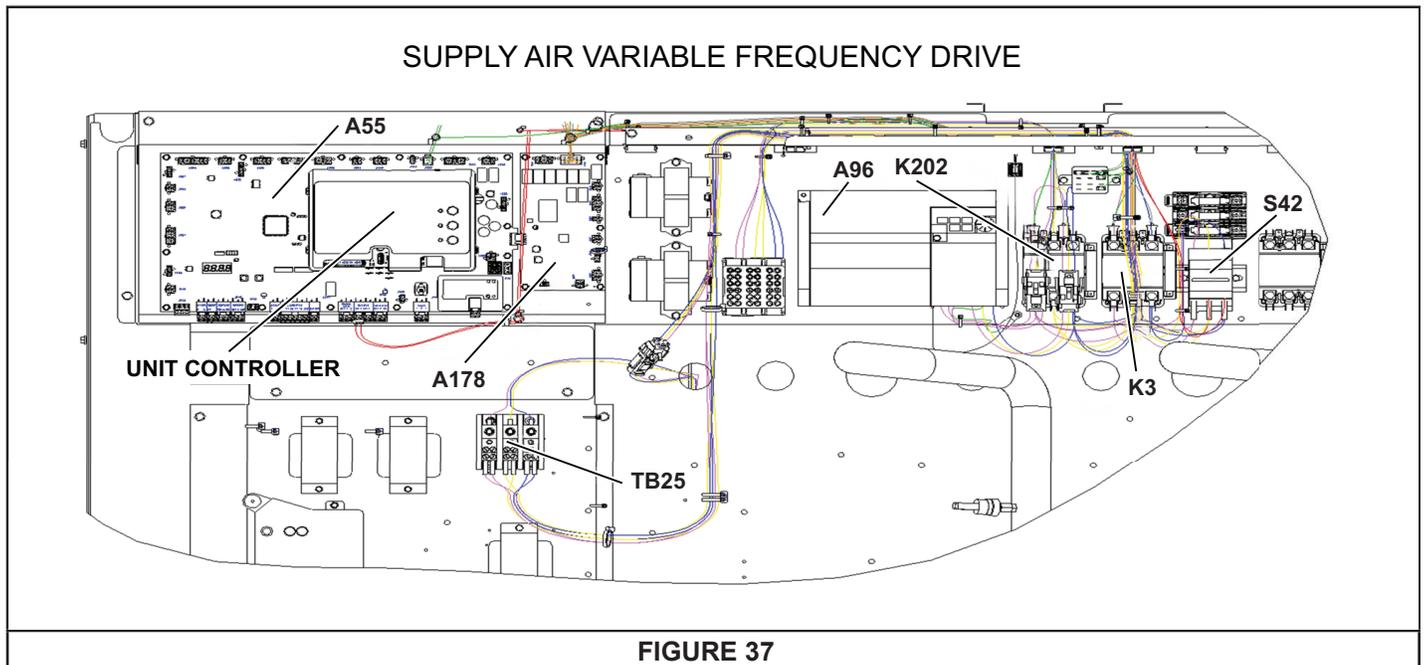

FIGURE 37
The supply air VFD (A96) is located near the compressors. See FIGURE 37.
- 4 - Locate the A55 Unit Controller. Refer to FIGURE 37.